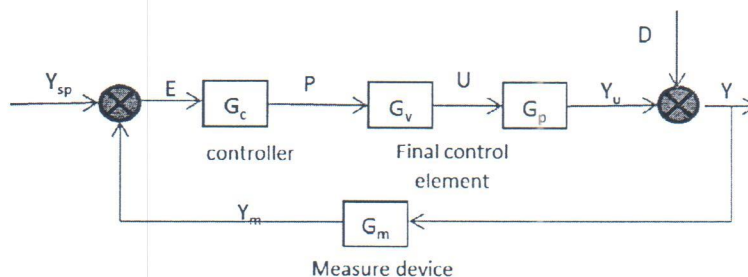

Figure Q.4.: Control Diagram
- 4. Take a case of level control when two streams enter a tank. One stream is used to manipulate in order to control the level. Figure Q.4. shows the control diagram of the system.